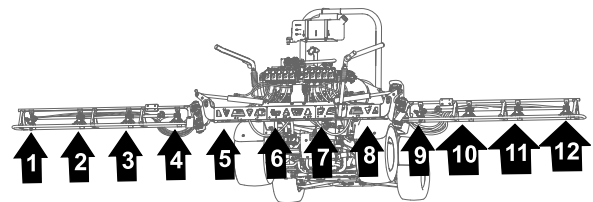
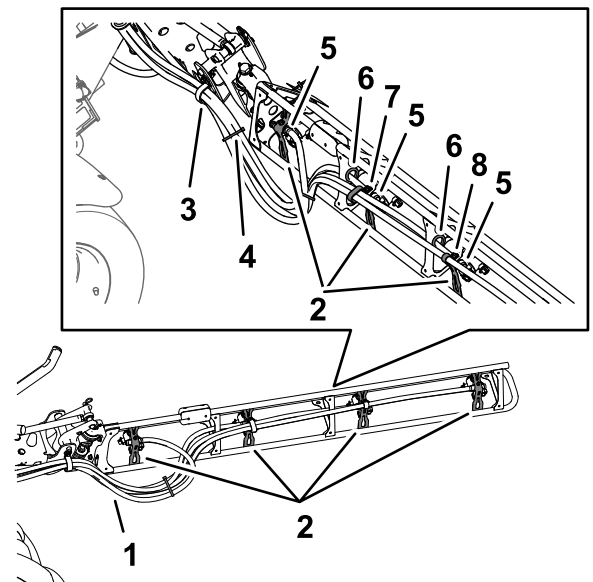

Figure 128
Figure 129
1. Route the hoses for sprayer nozzles 1, 2, 3, and 4 through the R-clamp at the left outboard end of the center-spray section (Figure 128 and Figure 129).
2. Route the hoses for sprayer nozzles 7, 8, 9, and 10 through the R-clamp at the right outboard end of the center-spray section (Figure 128 and Figure 129).
3. Route the supply hoses 279 cm (110 inches) and barbed-hose shanks (3/4 inch) along the spray section to sprayer nozzles 1 and 10 as shown in (Figure 128 and Figure 129).
4. Route the supply hoses 234 cm (92 inches) and barbed-hose shanks (3/4 inch) along the spray section to sprayer nozzles 2 and 9 along the spray section as shown in Figure 128 and Figure 129.
5. Route the supply hoses 188 cm (74 inches) and barbed-hose shanks (3/4 inch) along the spray section to sprayer nozzles 3 and 8 as shown in Figure 128 and Figure 129.
6. Route the supply hoses 188 cm (74 inches) and barbed-hose shanks (3/4 inch) along the spray section to sprayer nozzles 4 and 7 as shown in Figure 128 and Figure 129.
7. Bundle the 4 hoses for the sprayer nozzles together with a cable tie as shown in Figure 129.